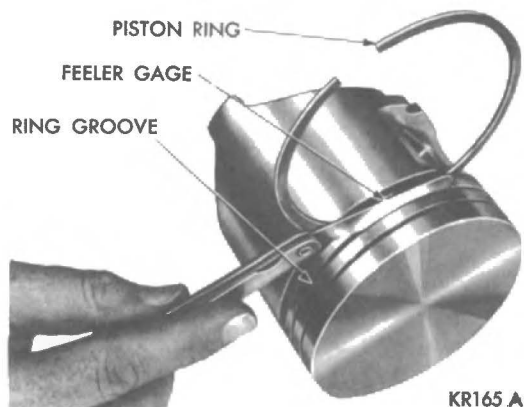

Fig. 29 Measuring Piston Ring Clearance
(1) Measure the piston ring gap about 2 inches from the bottom of the cylinder bore in which it is to be used. (An inverted piston can be used to push the rings down into position. This will ensure the rings being exactly square with the cylinder wall before measuring.)
(2) Insert the feeler stock in the gap. The ring gap should be from .010 inch to .020 inch for the compression rings and .015 inch to .062 inch for the oil ring steel rails in standard size bores (for new service rings). Maximum gap in .005 inch O/S bores should be .060 inch for compression rings and .070 for oil ring steel rails.
(3) Measure the side clearance between piston ring and ring land. The clearance should be .0015 to .003 inch for the top compression ring and the intermediate ring, and .001 to .009 for the oil control ring. (For new service rings.) (Fig. 29).
(4) Install the oil ring in the lower ring